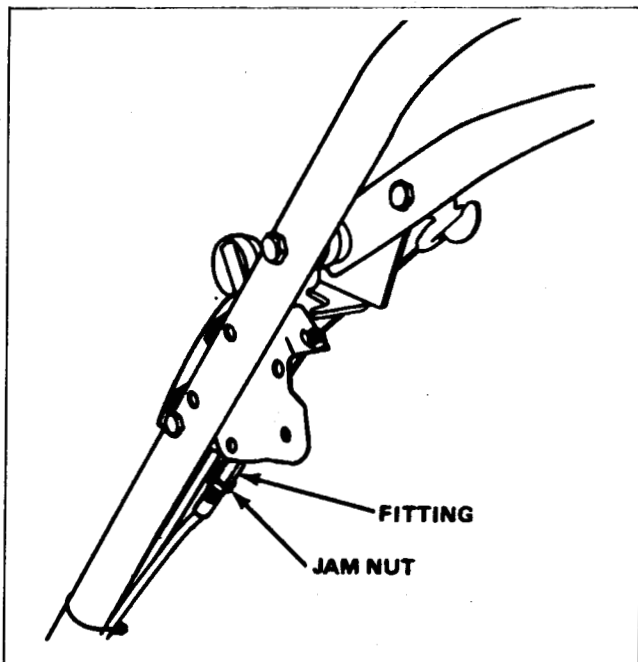

Figure 32
3. Loosen the jam nut on the cable adjuster and rotate the fitting up or down to achieve the correct distance between the control bar and the handle. See Figure 32.